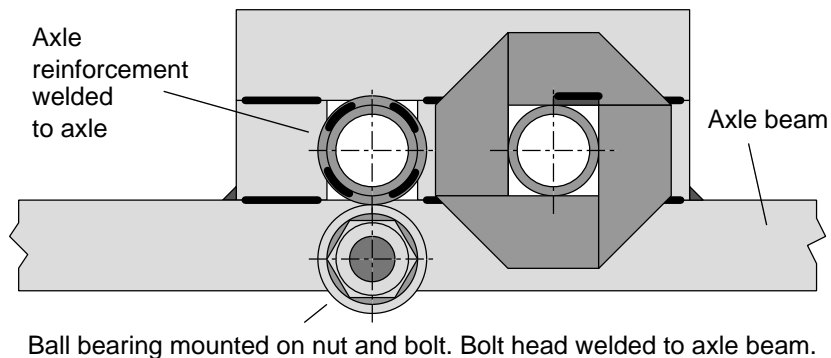

Figure 11: ball bearing mounting and axial bearing washer.
- 14) Now assemble the ball bearings on their bolts and lightly tighten the nut. Position each bearing under the middle of the axle as shown in Figure 11 so that the axle is held 2 or 3 mm away from the axle beam as in General Assembly 1. Then tack or 'spot' weld the ball bearing bolt to the axle beam. Remove the bearings from their bolts and weld fully.